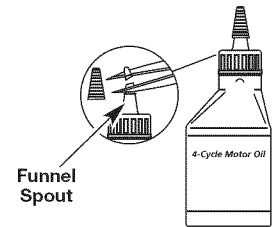

Fig. 6
The unit is supplied with one 3.04 fluid oz. (90 ml.) bottle of SAE 30 SF, SG, SH oil (Fig. 6).
1. Unscrew the top of the bottle of oil and remove the paper seal covering the opening. Replace the top. Next, cut the tip off the funnel spout (Fig. 6).